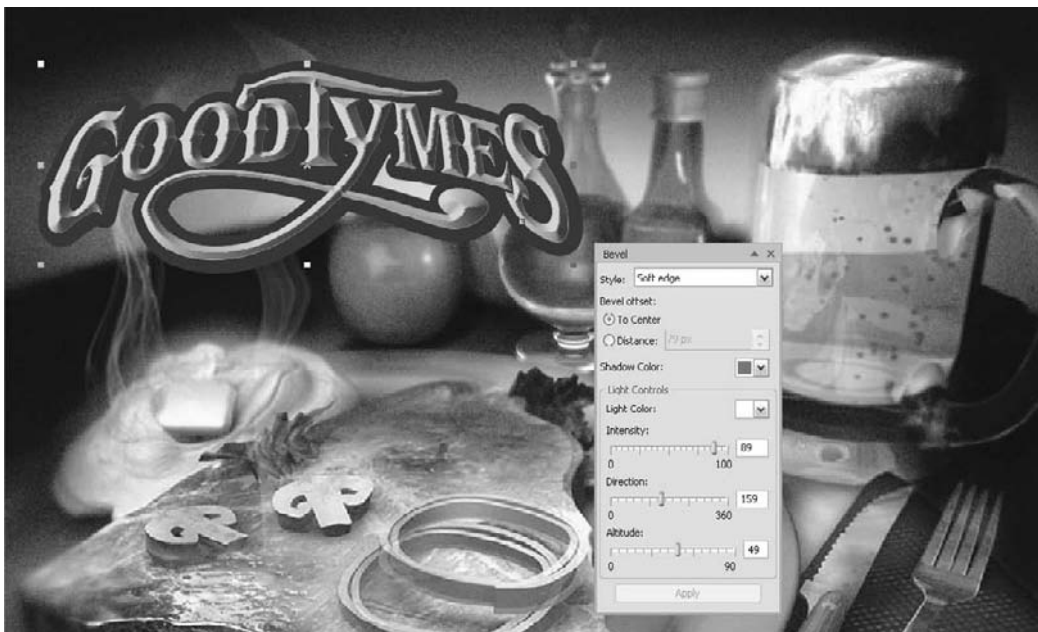

FIGURE 23-6 Use less contrast on Bevel effects to allow the shape of the object to dominate the composition.
7. You can click Apply now, and if you're not 100 percent pleased with the effect, try decreasing the Intensity. Less Intensity also reduces overall contrast, without changing the Direction or Altitude. See Figure 23-6.